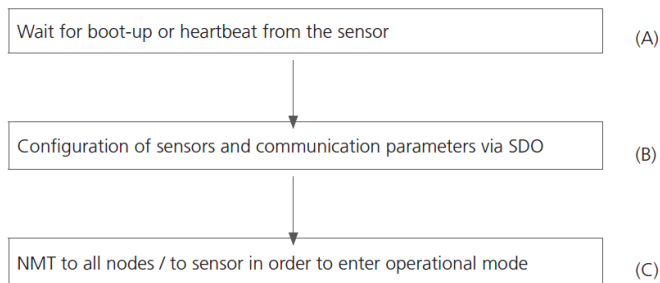

Fig.26: CANopen Bus initialization process
- (A) After connection to the current supply, the sensor sends a Boot Up message within approx. five seconds once the pre- operational status has been reached. In this state, the sensor only sends heartbeat messages if configured accordingly (see point A Fig. 26).
- (B) Then the sensor can be configured via SDOs; in most cases this is not necessary, since the once set communication parameters are automatically saved by the sensor (see point B Fig. 26).
- (C) In order to set the sensor into the operational state, you can either send an appropriate message to all CANopen participants or specifically to the sensor. In operational state, the sensor sends the supported PDOs according to its configuration either at periodic intervals or as triggered synch messages (see point C in Fig. 26).